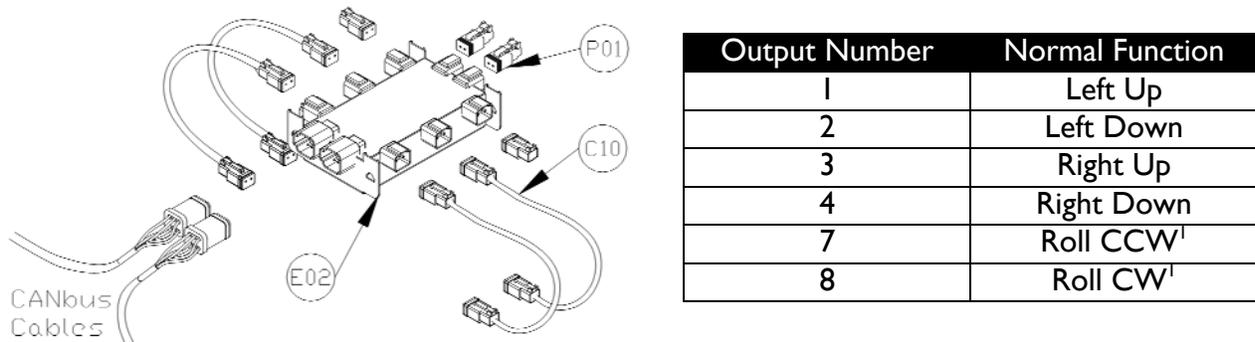

Figure 12: Default Valve Module Outputs
Figure 12 shows the default Valve Module outputs. The output numbers listed correspond to the output numbers printed on the Valve Module.
*Note 1: Not all sprayer types will have the functions listed in the table in **Figure 12**. These are generally used for proportional functions driven from the Norac valve block.*